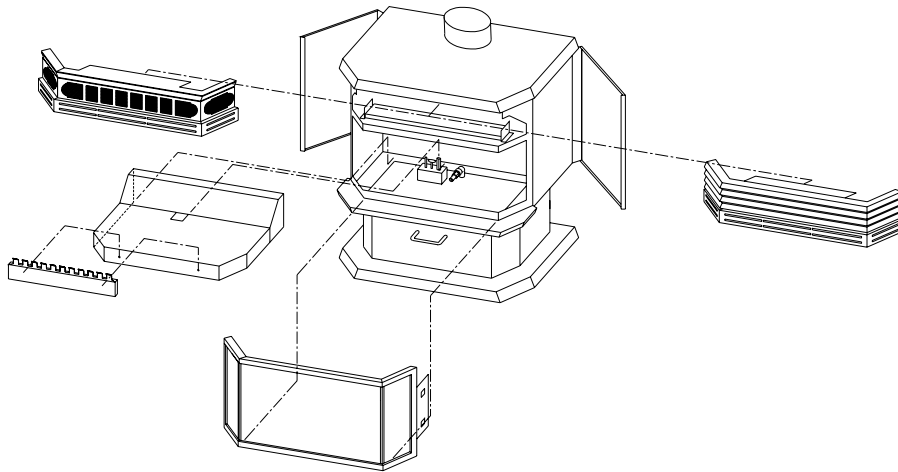

Figure 17
1. Open the side doors, and remove the top louvre by sliding it forward out of the clips under the top as in Figure 17.
5. Remove the coal grate by lifting it up and out, and remove the burner tray assembly as a unit by pulling it forward and then lifting it up and out as shown in Figure 17.